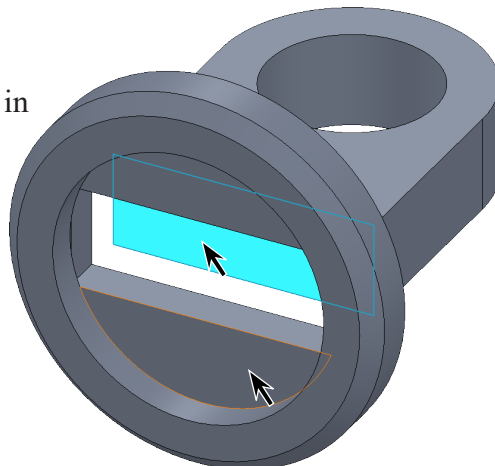

Fig. 10
Step 5. Click **front face of Lug** and **inside face of cut in Socket**, **Fig. 10**.